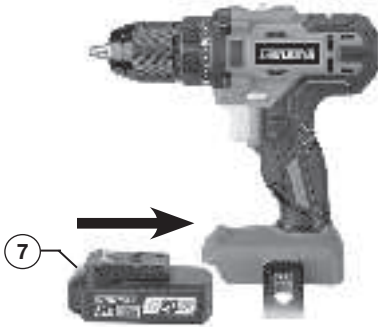

FIG 2
INSTALLING OR REMOVING THE BATTERY PACK (FIG 2)
- To install the battery pack, slide the battery pack into the bottom of the tool housing all the way until it locks in place with a click, as shown in FIG 2. Lightly pull on the battery to ensure it is locked into place and will not accidentally fall out of the tool, causing an injury.
- To remove the battery pack, pull the battery pack away from the tool while depressing the battery locking tab (7).